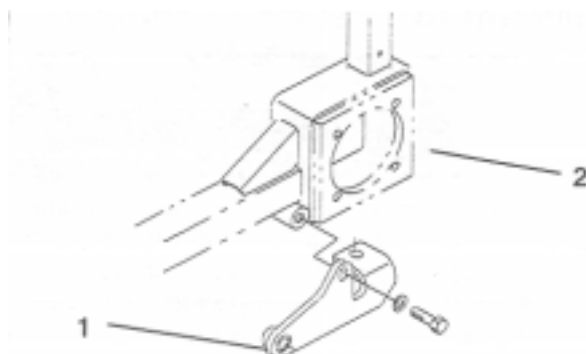

Figure 5
2. Secure the left mounting bracket to the front boss and the bottom of the wheel motor mount with 2 cap screws (1/2 x 1-1/2 inch) and lock washers (1/2 inch) (Fig. 5).